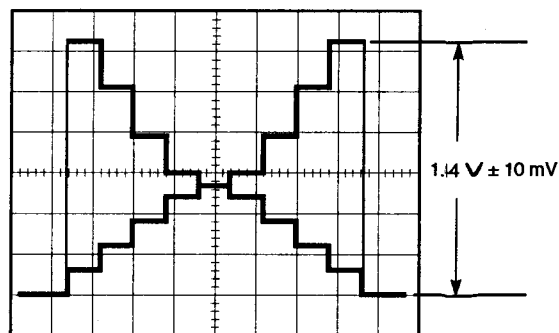

Fig. 5-1-29
- Adjust VR110 so that the Video signal level becomes  $1.44 \text{ V} \pm 10 \text{ mV}$  as shown in Fig. 5-1-29.
- Adjust VR210 so that the Video signal level becomes  $1.44 \text{ V} \pm 10 \text{ mV}$  as shown in Fig. 5-1-29.
- Adjust VR310 so that the Video signal level becomes  $1.44 \text{ V} \pm 10 \text{ mV}$  as shown in Fig. 5-1-29.